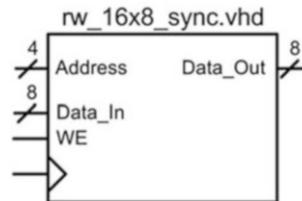

Fig. 11.5
11.3.2 Design a VHDL model for the 16 × 8, synchronous, read/write memory system shown in Fig. 11.5. Create a test bench to simulate your model. Your test bench should first read from all of the address locations to verify they are uninitialized. Next, your test bench should write unique information to each of the address locations. Finally, your test bench should read from each address location to verify that the information that was written was stored and can be successfully retrieved.